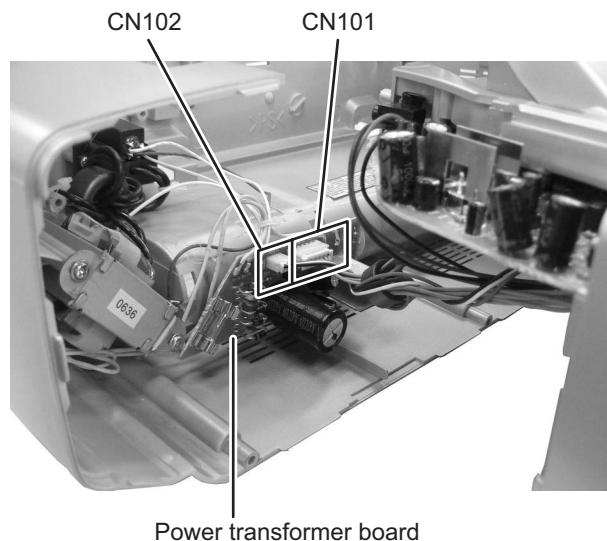

Fig.3
- (3) Disconnect the connector wire from Amplifier board assembly connected to connector CN101 of the Power transformer board assembly. (See Fig.3)
- (4) Disconnect the connector wire from Capstan motor connected to connector CN102 of the Power transformer board assembly. (See Fig.3)